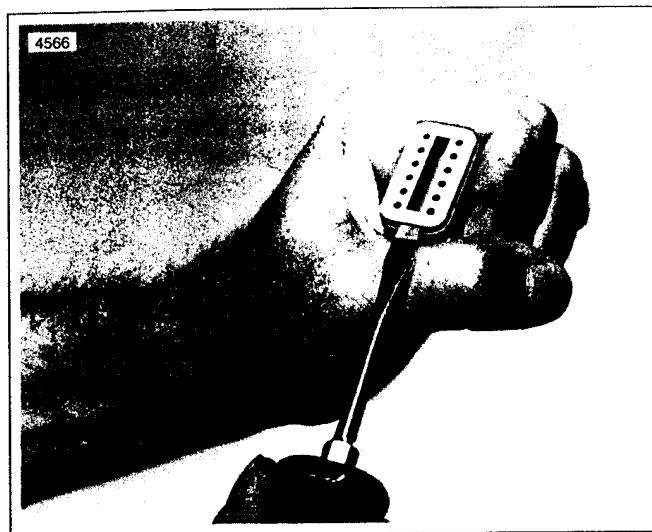

Figure B-6. Remove Secondary Locking Wedge
1. See Figure B-6. Remove the secondary locking wedge. Insert the blade of a small screwdriver between the socket housing and locking wedge inline with the groove (inline with the pin holes if the groove is absent). Turn the screwdriver 90 degrees to pop the wedge up.